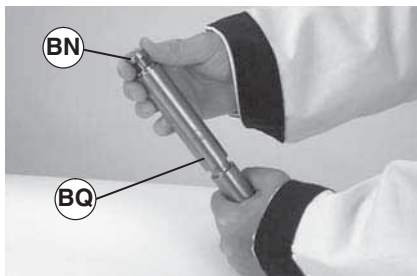

Figure 37
- Slide bearing (part # 240338) (Figure 37, item BN) onto spindle (BQ).